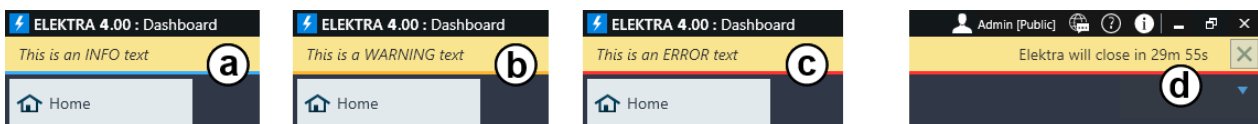

Figure 4-187: Examples of messages as seen in a remote client
As a remote client, you can delete an "Info", "Warning" or "Error" message (labeled a to c in Figure 4-187) by clicking the "X" button at the far right of the message dialog. You cannot delete a shutdown message (d), where the "X" button is disabled.
When you select "Close All Clients" (6), each client gets your shutdown message with a red underline. Also, the clients get a countdown that shows the remaining days, hours, minutes and seconds at the far right of the message dialog, see (d) in Figure 4-187. While a closing procedure is running, you cannot send other messages.